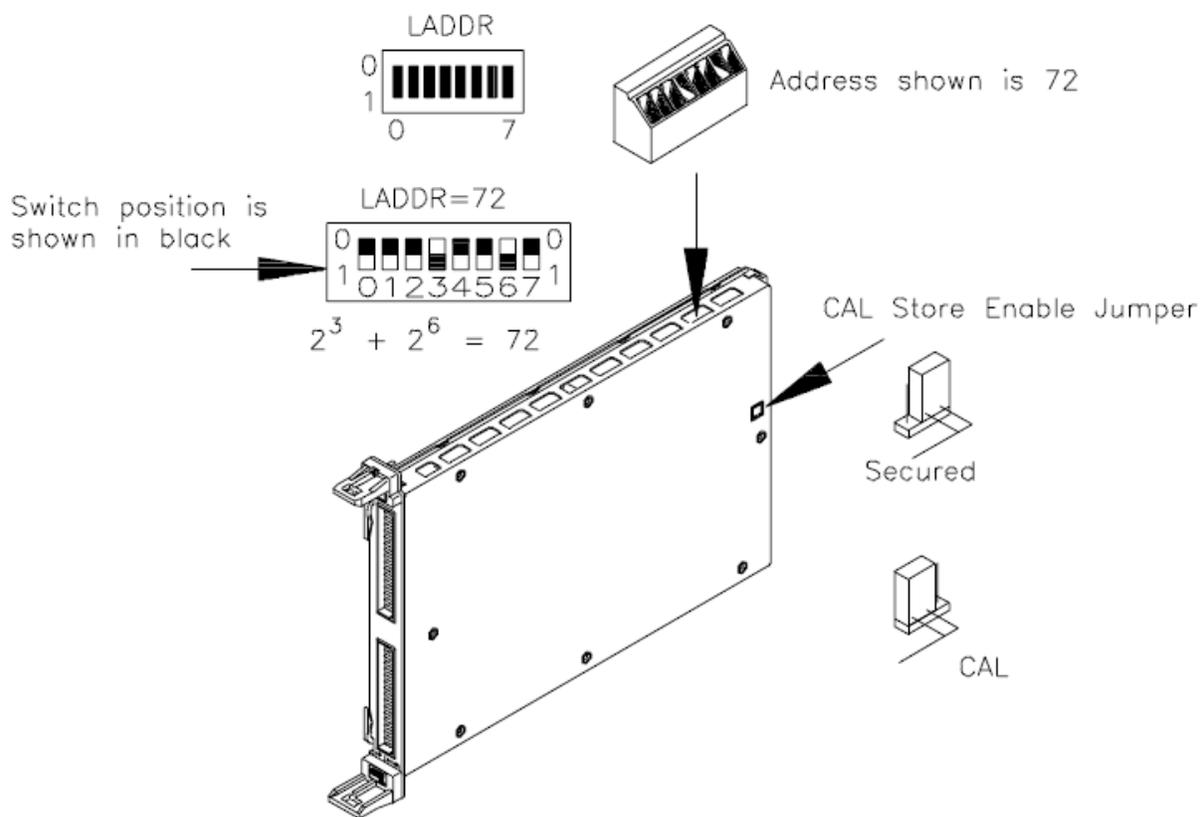

Figure 1-4 Setting the Logical Address
Figure 1-4 shows the logical address switch location and setting. The logical address switch factory setting is 72. Valid addresses range from 1 to 255.
- 2 Verify or set the logical address switch as shown in Figure 1-4.